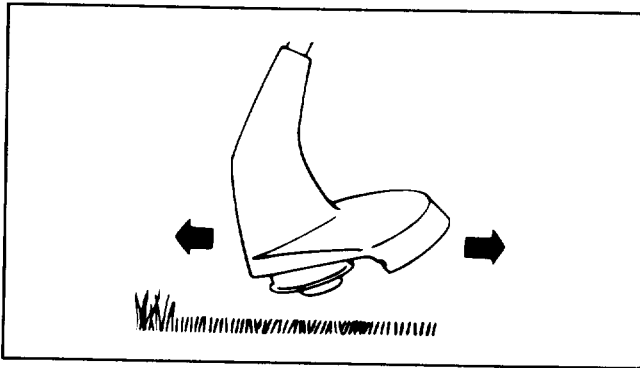

Figure 12
4. Slowly move unit in and out of area being cut, maintaining unit at desired cutting height. This can be either a forward-backward or side-to-side motion as indicated (Figs. 12 & 13).